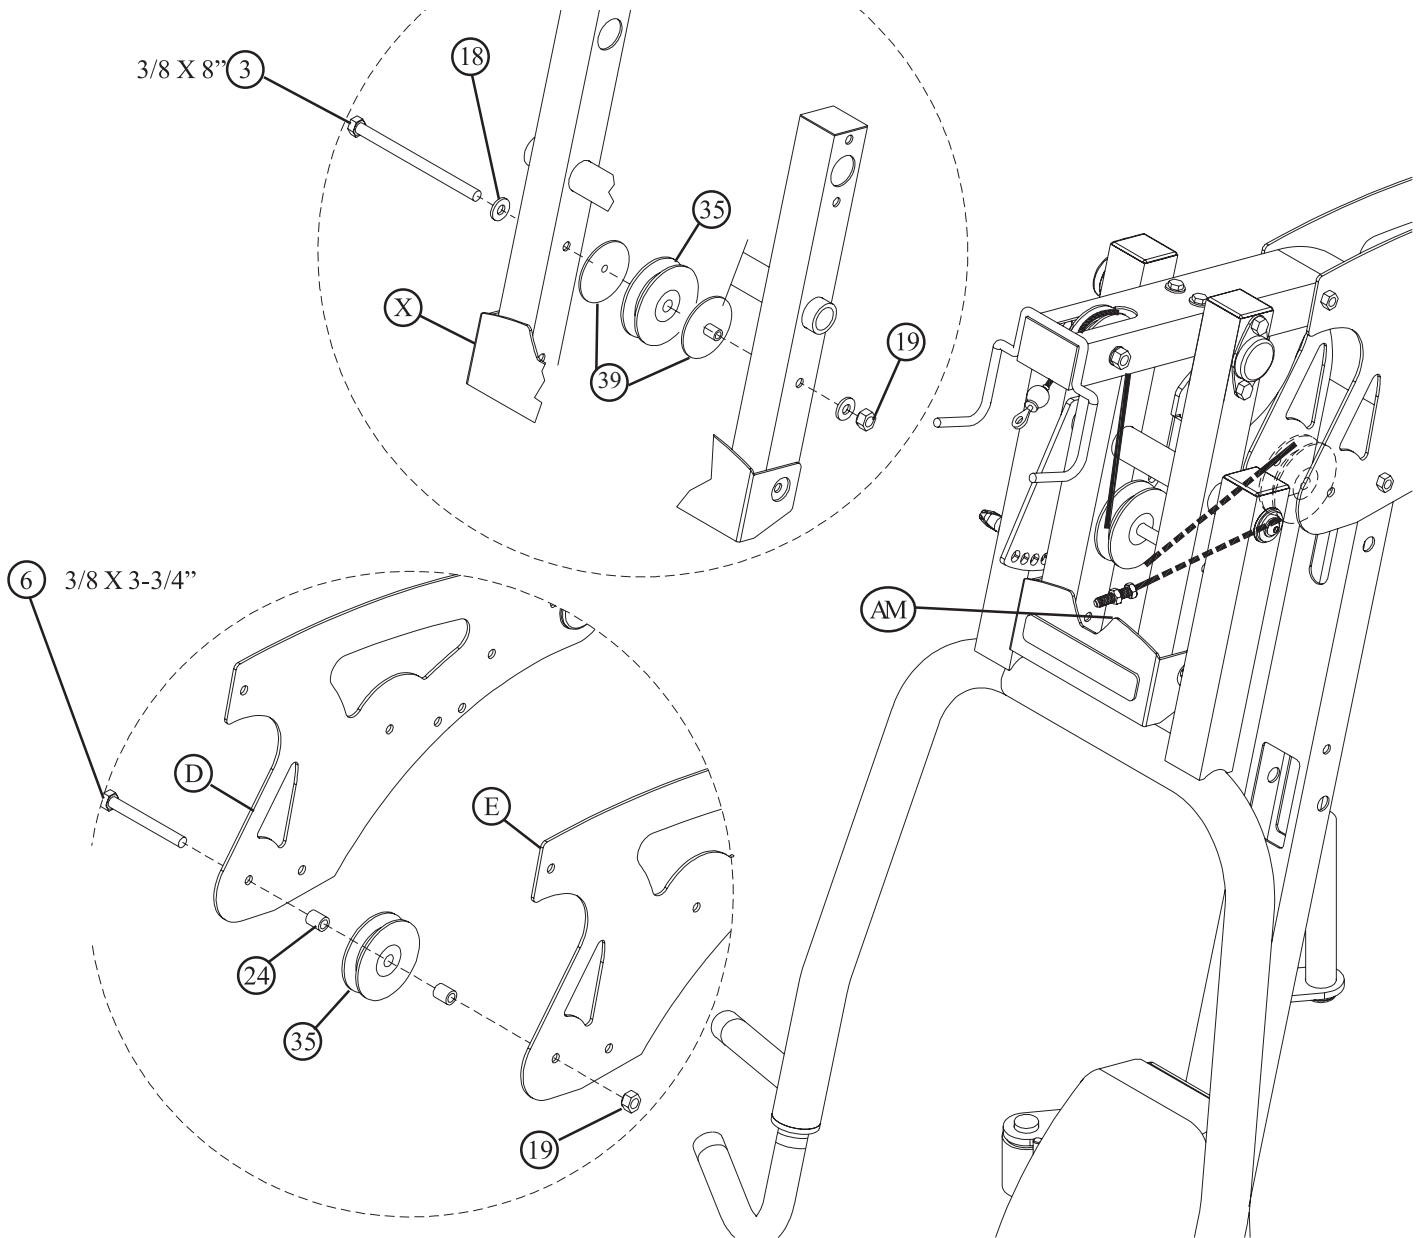

FIGURE 15
- Route the LAT CABLE (AM) through the PRESS ARM SUPPORT FRAME (X) and assemble one 3-1/2" PULLEY (35) to the FRAME PRESS ARM SUPPORT FRAME (X) using one 3/8 X 8" BOLT (3), two 3/8" WASHERS (18), two PULLEY GUARD SPACERS (39) and one 3/8" SILVER LOCK NUT (19). See FIGURE 15.
- Route the LAT CABLE (AM) around one 3-1/2" PULLEY (35) and assemble the PULLEY to the LEFT (D) and RIGHT (E) BOOM PLATES using one 3/8 X 3-3/4" BOLT (6), two 3/8 X 1" SPACERS (24) and one 3/8" SILVER LOCK NUT (19). See FIGURE 15.